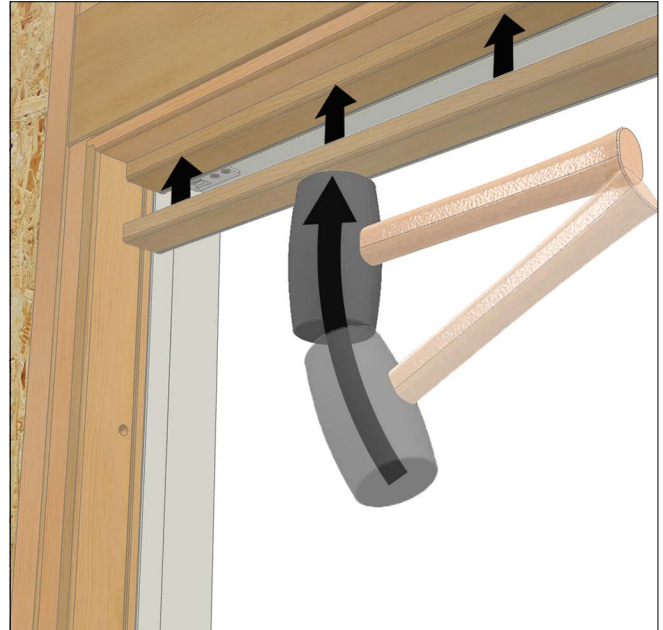

Figure 8
6. Once install is complete, panel stops can be installed head jamb before jambs. Install panel stops with weather strip bulb facing toward the exterior. Be careful not to mar the finish or scratch finish on the parts. A non-marring mallet can be used to tap the double barbed stop into place. Ensure the mating liner kerf is free of debris before installing. See Figure 8.